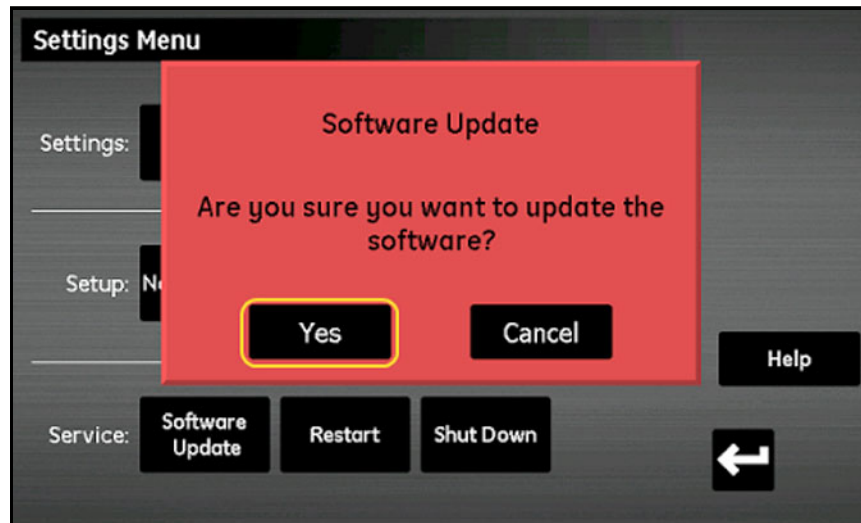

Figure 88: Update Confirmation
6. The moisture.IQ prompts you to confirm you want to update the software (see Figure 88 below). Tap the **Yes button**.